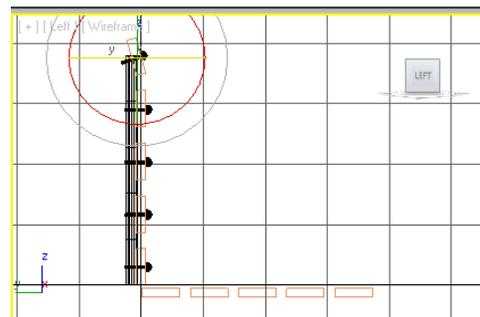

Figure 2-72 Rotating uppermost rivet
- Select the uppermost rivet and choose the **Select and Rotate** tool. Now, rotate the uppermost rivet by using the outermost ring of the **Select and Rotate** tool in the counterclockwise direction until the value in the **X** spinner in the coordinate display becomes **-20**, refer to Figure 2-72.